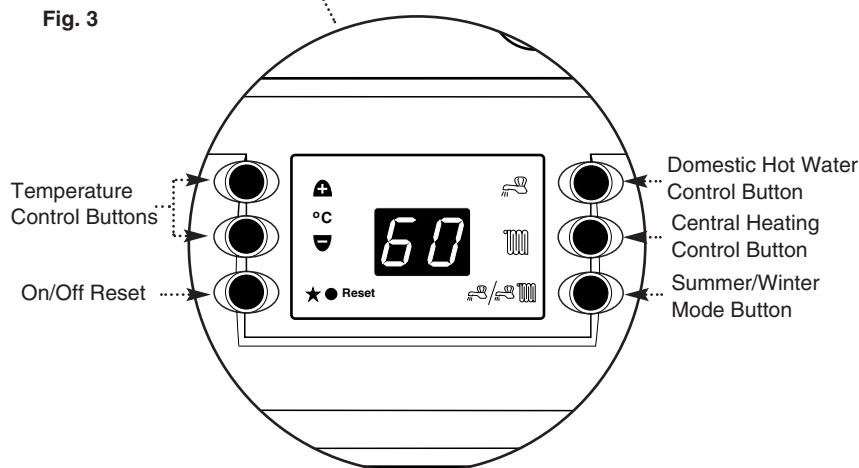

Fig. 4
2. To set the required temperature, press and hold the Central Heating Control Button () whilst adjusting the necessary Temperature Control Button (Fig. 4).
2. To set the required temperature, press and hold the Domestic Hot Water Control Button () whilst adjusting the necessary Temperature Control Button (Fig. 4).
2. If the red flame failure light is on, press the On/Off/Reset button () (Fig. 4) until the red flame failure light goes off.